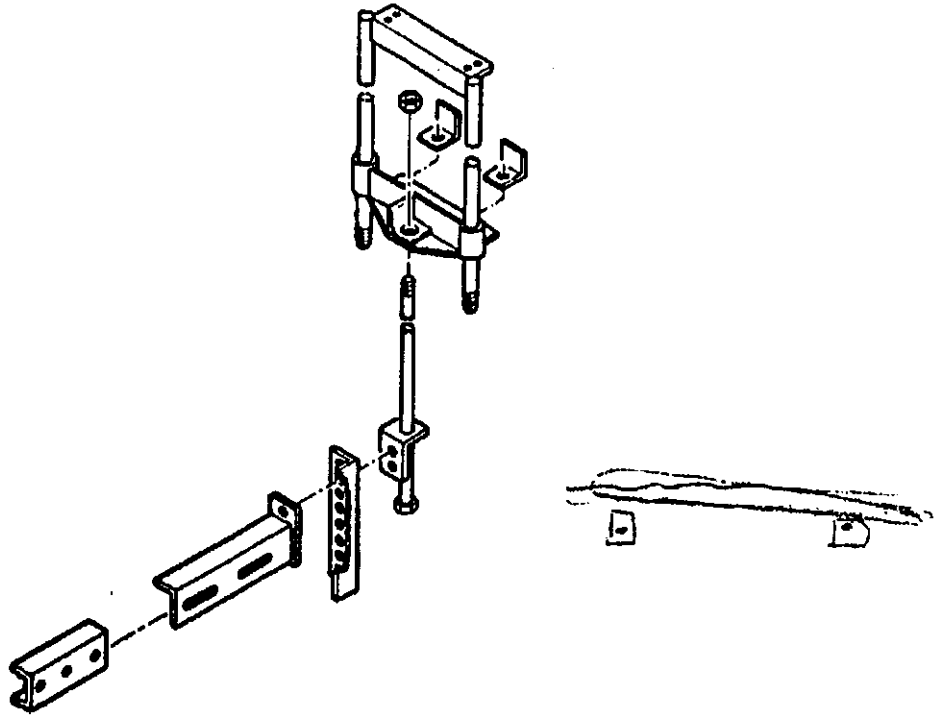

FIGURE 8. GUIDE ROD INSTALLATION
13. (ALL) Place the guide rod retainer angles under the dock brackets and install the 36 in. rods up through the angles and the dock brackets (See Figure 8.) Install the castellated nuts.
15. (ALL) Install the 32 in. guide rods up through the retainer angles and the dock brackets. (See Figure 8.) Install the castellated nuts.